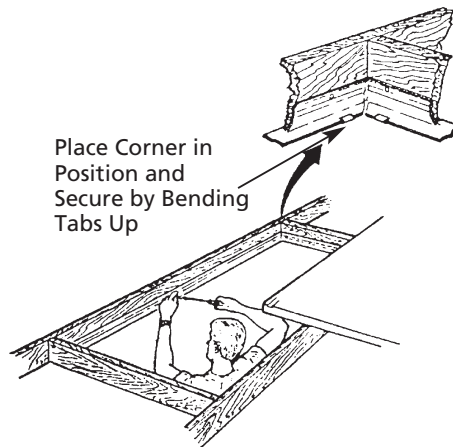

Figure 9
- Loosely screw side and end frames to ceiling opening, then attach corners in place (see Figure 9).